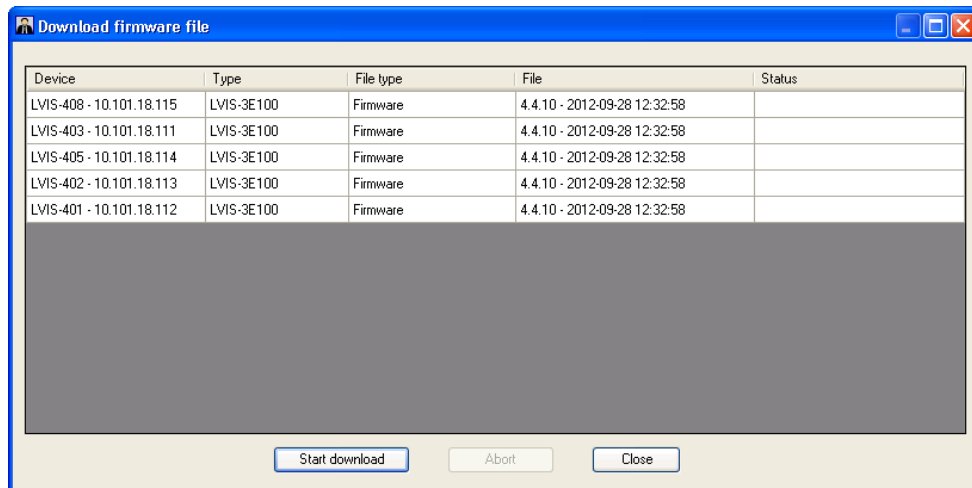

Figure 205: Download Firmware File Dialog
2. The **Download firmware file** dialog opens as shown in Figure 205. This dialog displays a list of devices and the firmware files which will be downloaded. To start the download, press the **Start download** button.